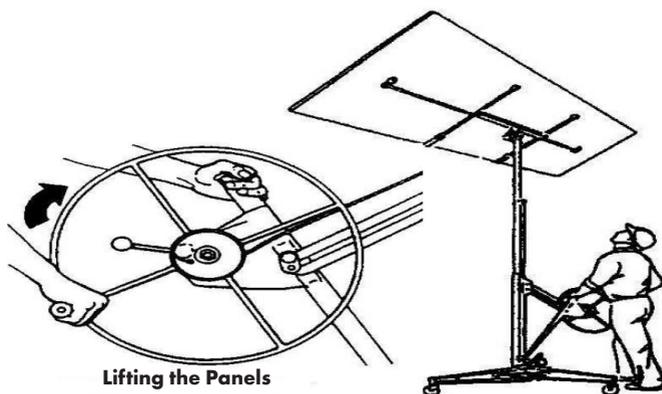

Figure 32
- To raise the panel, rotate the winch wheel in the direction shown in Fig. 32. The brake arm is spring loaded to hold the winch automatically at any height.